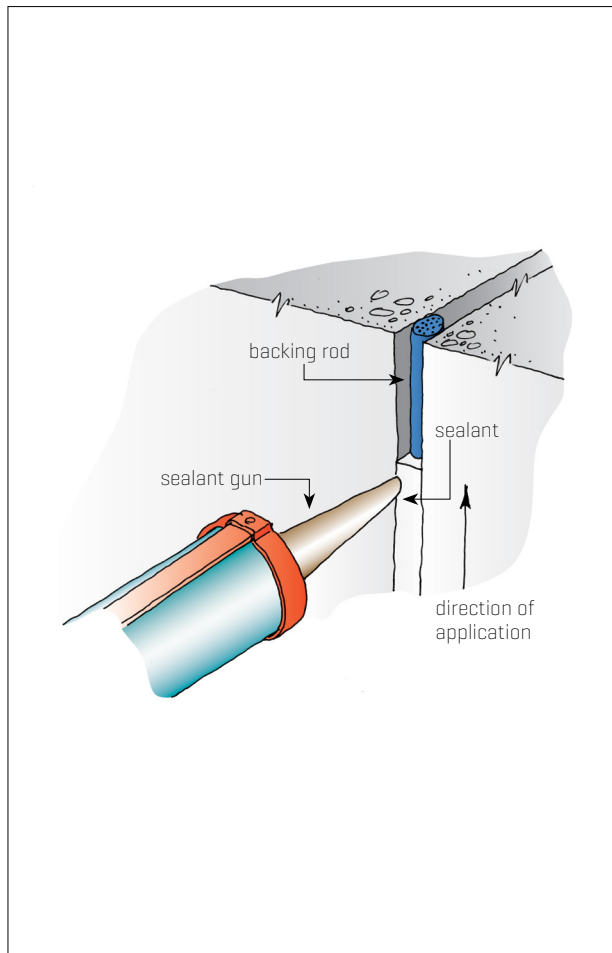

Figure 1: Application.
**9.0.2** It is essential to ensure the sealant completely fills the joint to the required depth, is in good contact with the full depth of the sides and no air is trapped in the joint. When applying sealants by gun, pulling the gun along will leave a good looking job without tooling, but it is very likely to leave voids and trapped air beneath the surface. The best method is to push the gun in the direction in which the sealant is being applied, as shown in Figures 1 and 2, forcing the sealant into the joint, then tool the joint to produce a smooth finish.